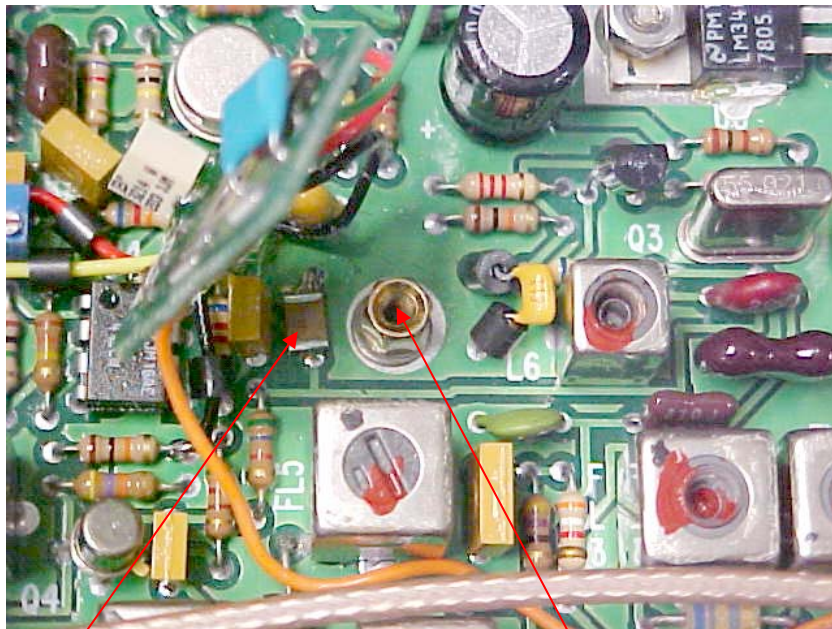

Figure 1
1. Remove the screw to detach the AGC board and remove the associated standoff from the GS module (Ref. Figure 1).